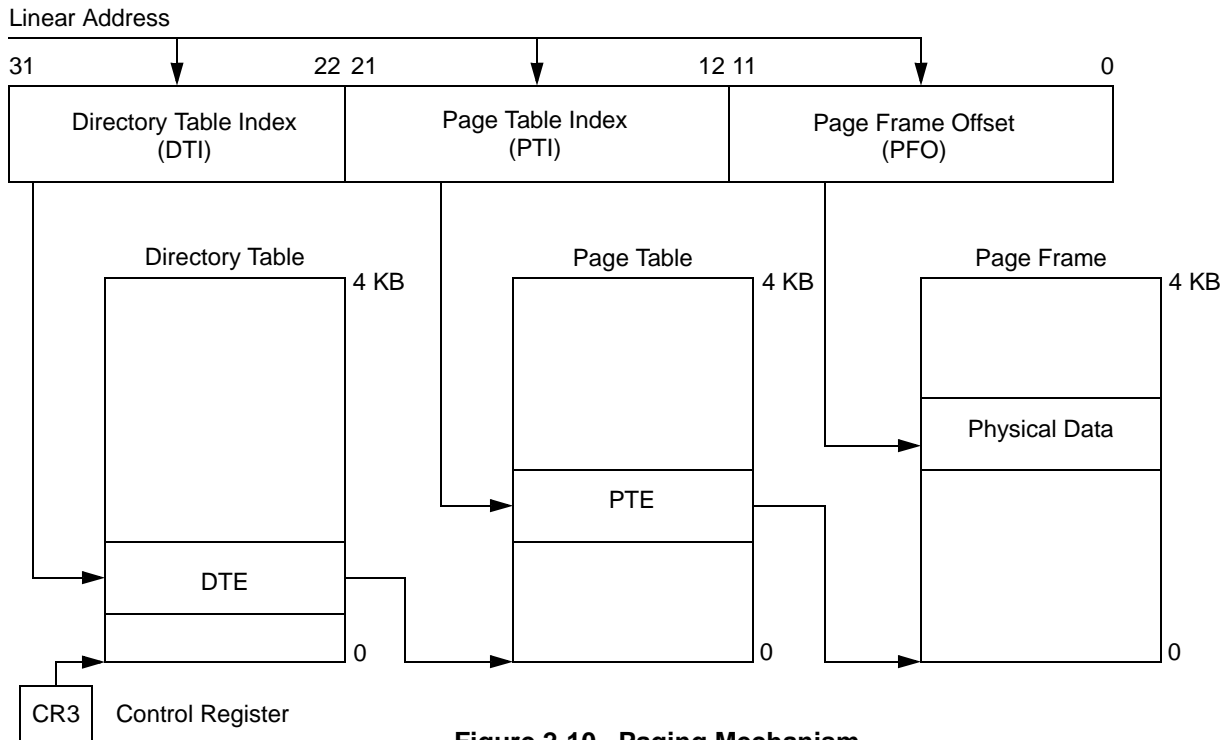

Figure 2-10 Paging Mechanism
A page is addressed by using two levels of tables as illustrated in Figure 2-10 on page 65. The upper 10 bits of the 32-bit linear address are used to locate an entry in the page directory table. The page directory table acts as a 32-bit master index to up to 1 KB individual second-level page tables. The selected entry in the page directory table, referred to as the
In addition to the base address of the page table or the page frame, each directory table entry or page table entry contains attribute bits and a Present (P) Flag bit as illustrated in Figure 2-10 and listed in Table 2.28.